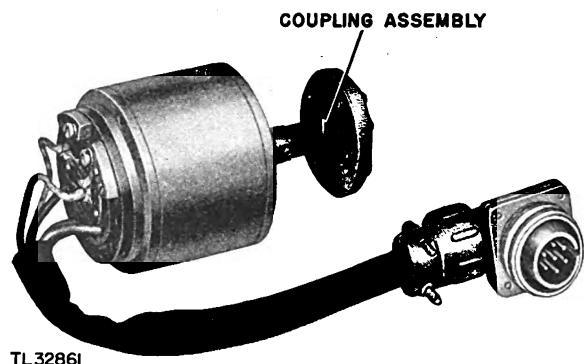

Figure 35. Selsyn transformer.
## (4) SELSYN TRANSFORMER (Fig. 35).